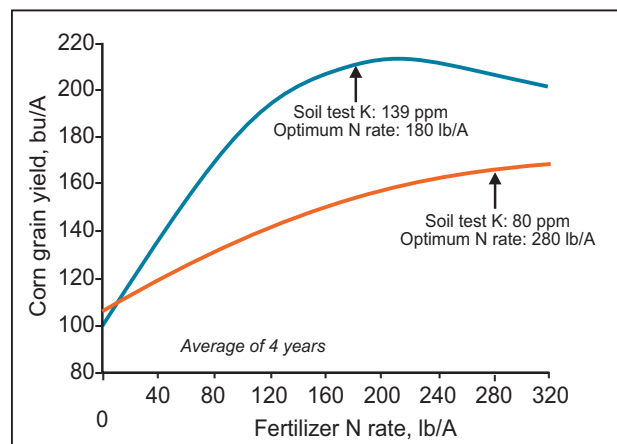

Figure 1. Response of corn yield to applied N fertilizer at different K soil test levels.
That seems simple until we try to repeat the same test on a different field and realize that the level of potassium (K) in the soil has a great effect on not only the yield level attained, but also on the N level at which the optimum rate is achieved. **Figure 1** illustrates this interaction effect.